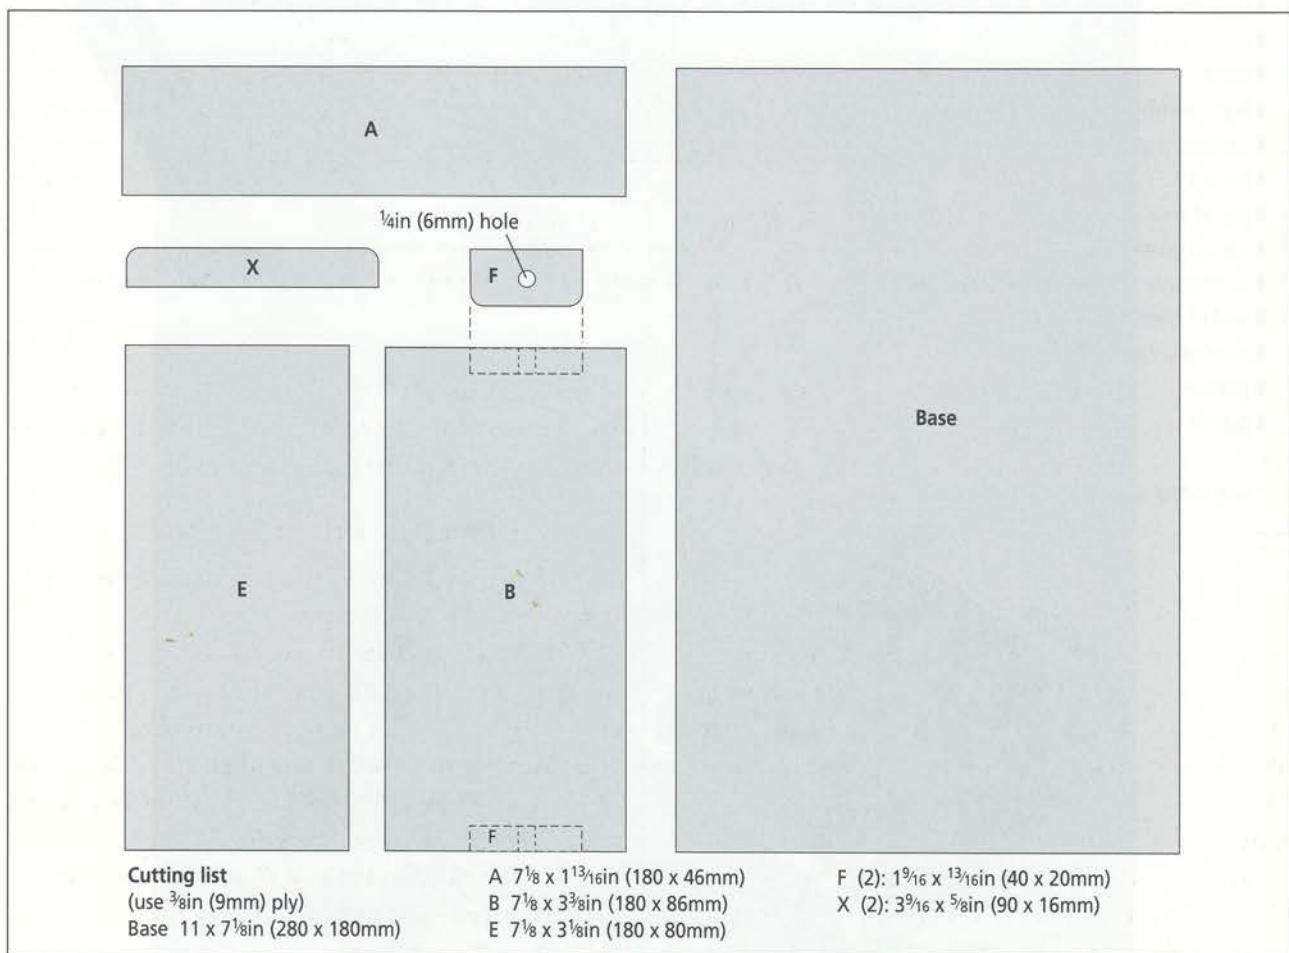

Fig 12.2 The dimensions of the base, A, B, E, F and X. Note the 1/4in (6mm) hole in F.
The dimensions of the remaining parts (see Fig 12.2 and 12.3) can easily be marked out on the plywood using a straight edge and a square. Label each part lightly with a pencil before cutting.
Glue the two pivot brackets (F) in position, one on each end of part B (see Fig 12.7). The positions of F on B are shown on the plan at Fig 12.2. It is important to keep these two brackets parallel because they have to pivot freely on one of the metal rods. Once both parts F have been glued in position, place a metal rod through the holes in parts F until the glue has thoroughly dry. Fig 12.8 shows how B will fit into the assembly via the metal rod that passes through the holes in both brackets (F) and the sides.